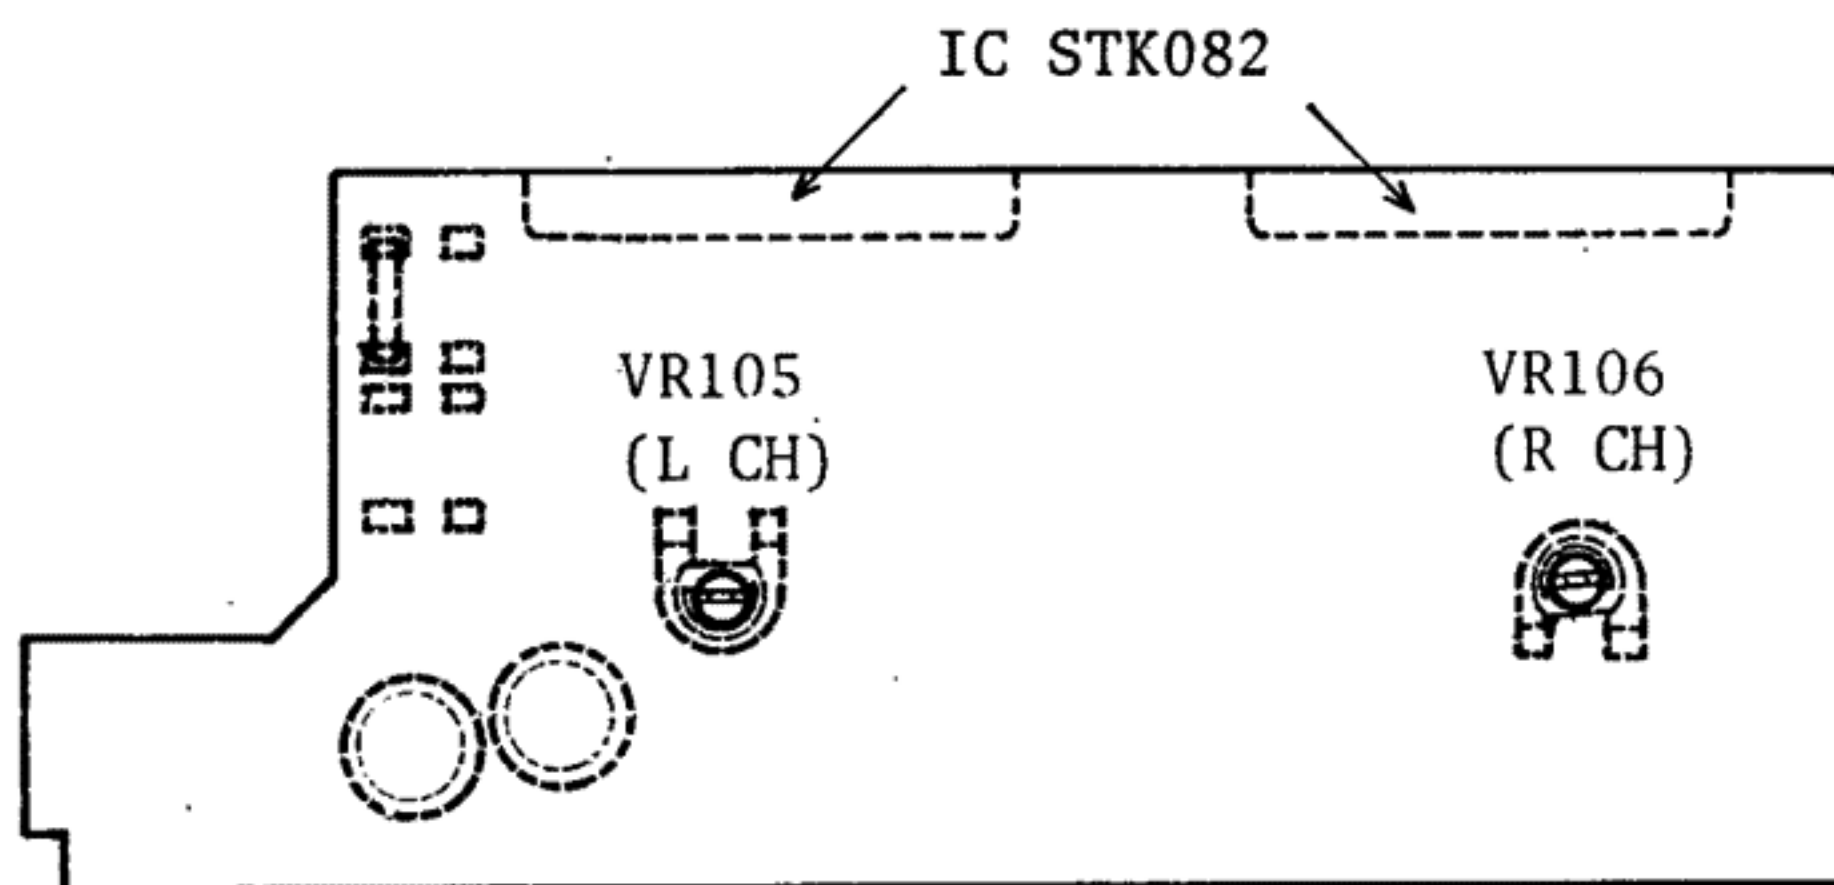
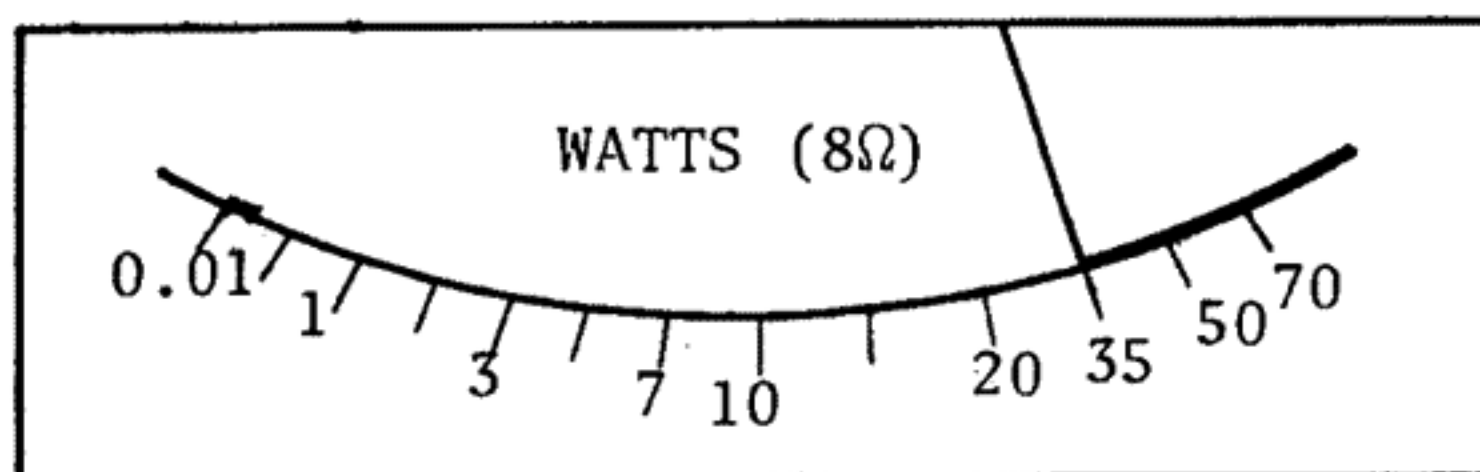

Fig. 7 Adjustment Points.
Fig. 8 Level Meter.
4. Now, adjust VR105 (LEFT) and VR106 (RIGHT) on the Pre/Main Amplifier P.C board (see Fig. 7) until the POWER LEVEL meter deflects to the mark '35' (see Fig. 8).